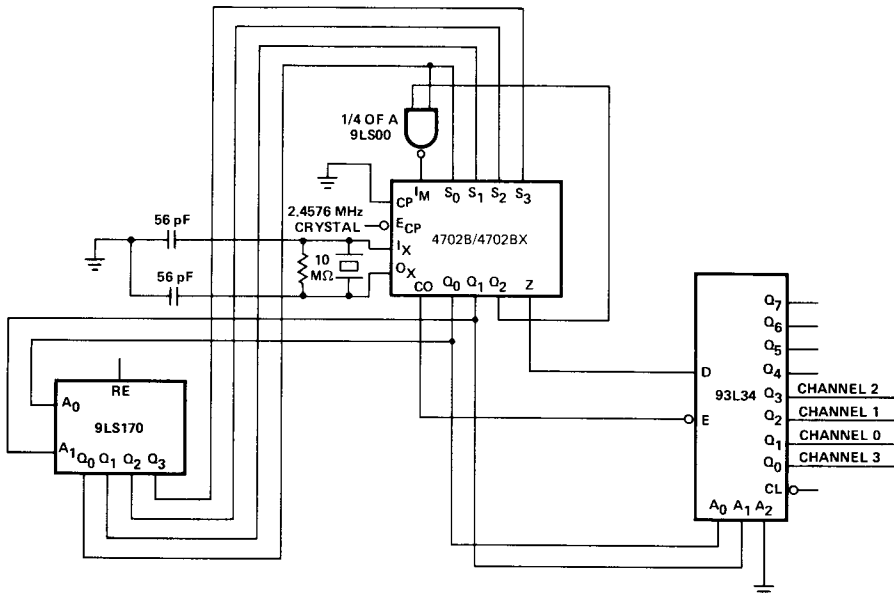

Fig. 4
**19200 Baud Operation** — Though a 19200 Baud signal is not internally routed to the multiplexer, the 4702B/4702BX can be used to generate this bit rate by connecting the Q2 output to the IM input and applying select code 0 or 1. An additional 2-input NAND gate can be used to retain the "Zero Baud" feature on select code 0. Any multichannel operation that involves 19200 Baud must be limited to four outputs as shown in *Figure 4*. Only the two least significant Scan Counter outputs are used, so that the scan is completed within one half period of the 19200 output frequency.